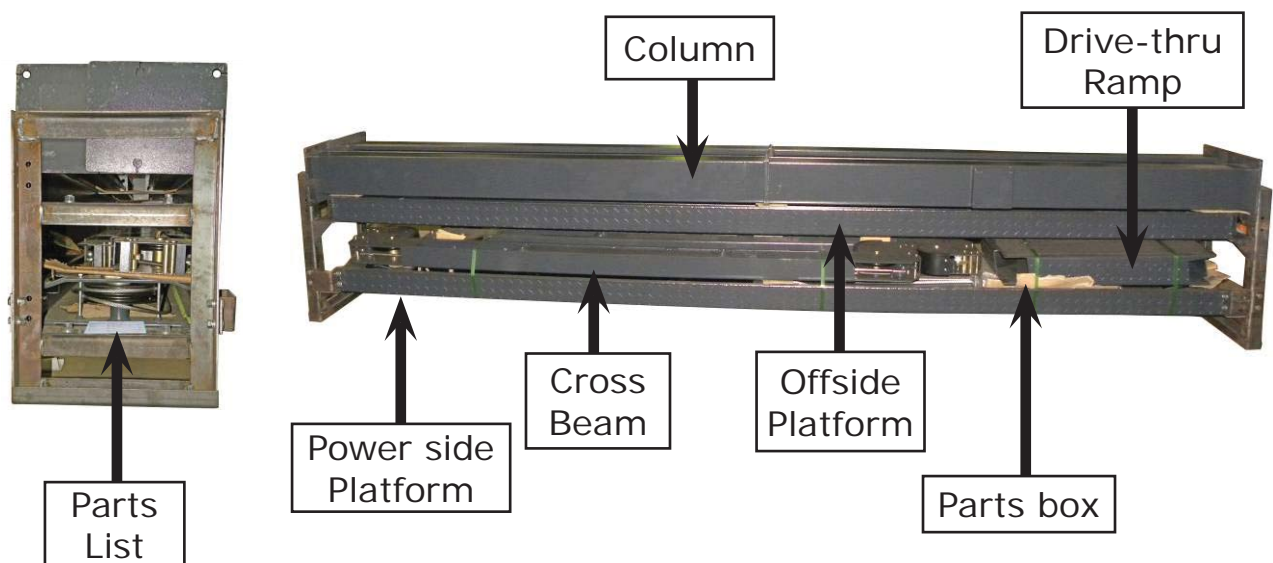

Fig. 5
2. Open the outer packing carefully; check the parts according to the shipment list. (See Fig. 5).